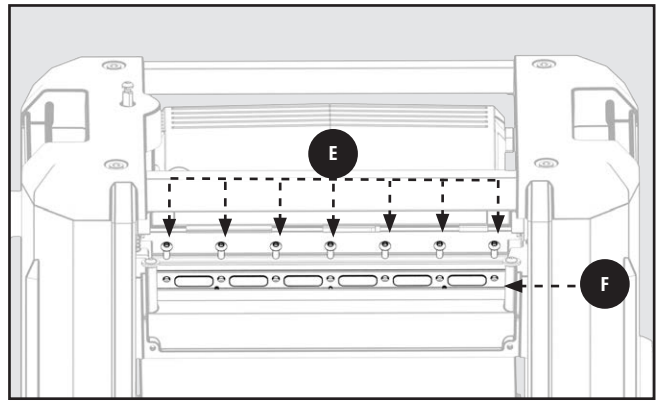

FIGURE 21
9. Attach the hold-down bar (F) Figure 21 that you removed in **STEP 4**. Tighten all fasteners securely.